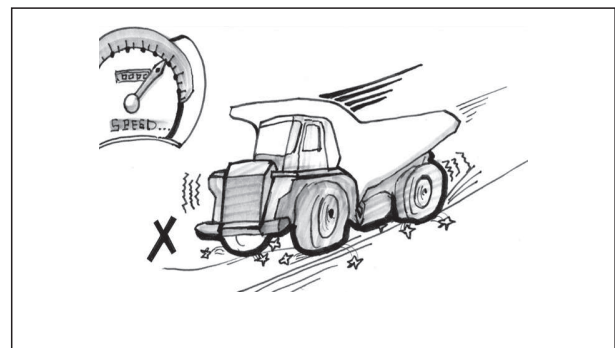

Fig. 5-7
When the loader operator signals that the truck is loaded, sound two blasts on the horn, release the brakes and shift the transmission to drive (D). Move out of the loading area and onto the haul road with the least possible delay to allow any waiting truck to move into the loading position as soon as possible (refer to fig.5-7).